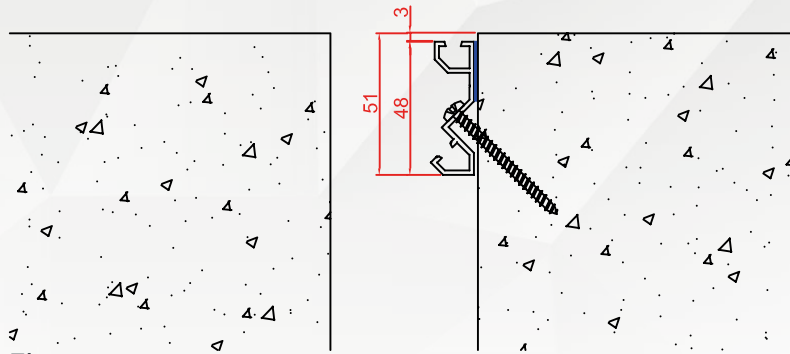

Figure 2.
12. Using the fasteners (pls. be noted that fasteners are not supplied by GENOTEK. They are supplied upon request) , attach the base member to the wall (see Figure 2). Ensure that the base member remains properly aligned and level.